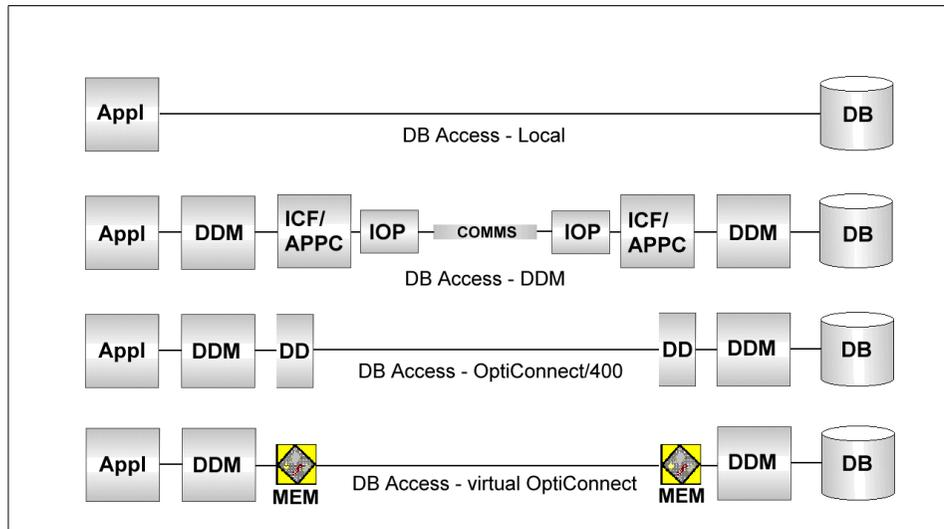

Figure 63. Distributed Data Management Concept
Figure 63 shows that there is an overhead using Distributed Data Management over a communication line. OptiConnect/400 uses a fast Device Driver (DD) and no ICF/APPCC function is involved in a DDM transaction.